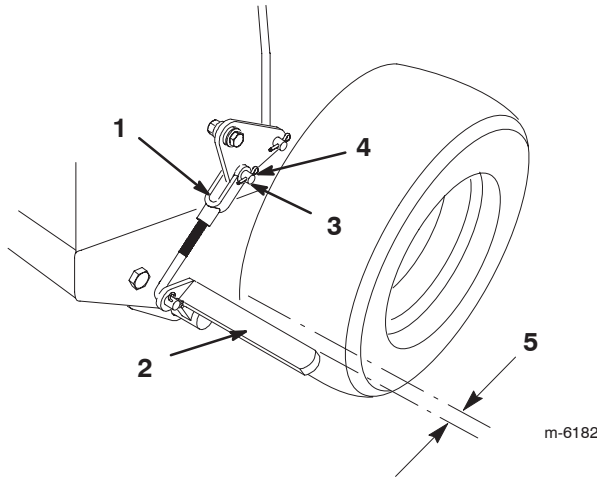

Figure 55
3. Remove the hair pin cotter and the clevis pin from the lower brake lever (Fig. 55).
4. Rotate the brake linkage yoke in to tighten the parking brake; rotate the brake linkage yoke out to loosen the parking brake (Fig. 55).
Note: There should be an approximately 1/4 inch clearance between the tire and the flat bar when the parking brake in the released position (Fig. 55).
5. Secure the brake linkage yoke to the lower brake lever with the hair pin cotter and the clevis pin (Fig. 55).